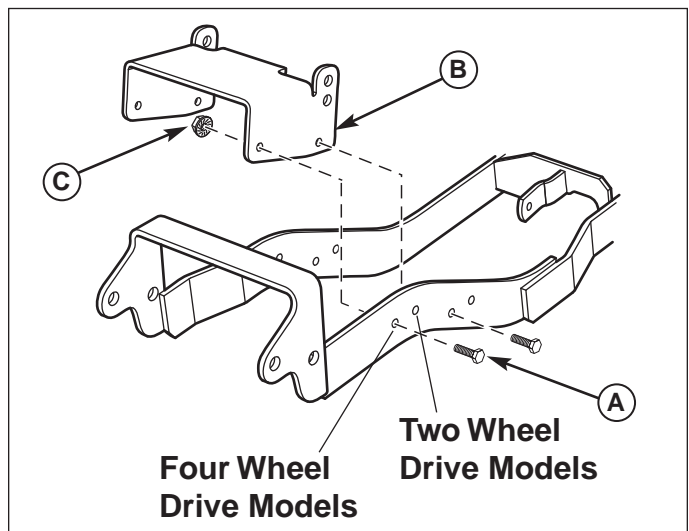

Figure 4. Assemble Push Bar Latch
1. Attach Push Bar Latch (B, Figure 4), to hitch. Secure with four .31-16 x 1 bolts (A), and four .38-16 flange nuts (C).